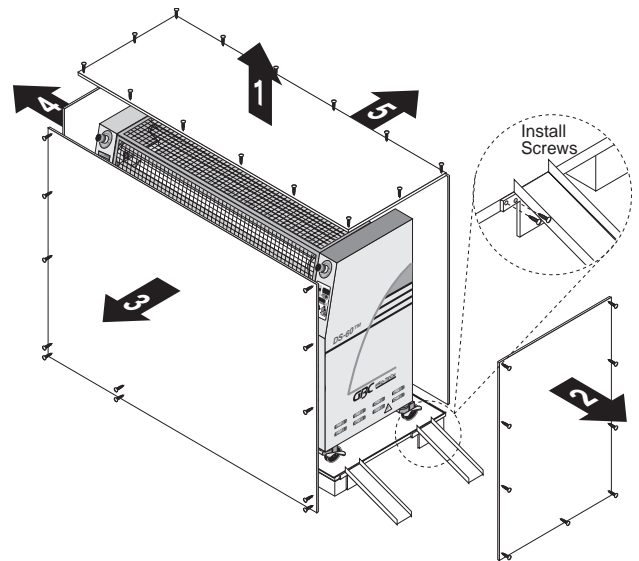
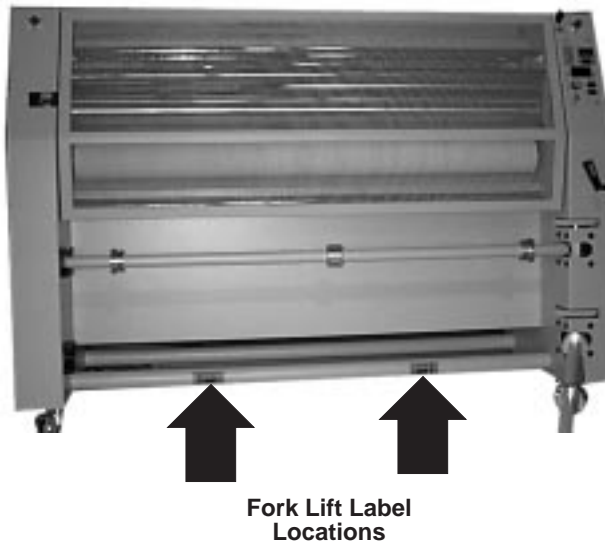

Figure 2-2: Removing the Crate
Figure 2-3: Fork Lift Label Locations
1. Remove the top of the crate and then the sides in the order shown in Figure 2-2.
A second person must support the side labeled (5) in Figure 2-2. It can fall and damage the heat press.
4. Roll the machine off by securing included ramps to the edge of the crate bottom using the screws left over from the crate disassembly (See Figure 2-2) or lift the machine off by applying fork lift truck blades to the two bottom tie bars between the cabinets. The fork lift blades must be located at the lift label locations on the tie bars (see Figure 2-3).